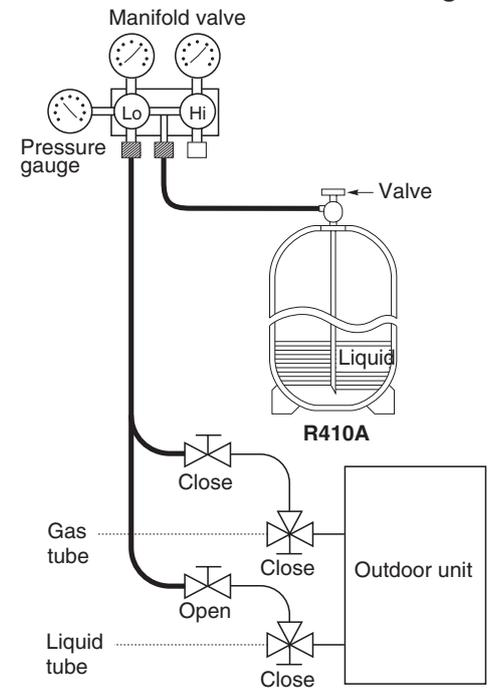

Fig. 2-37
- Charging additional refrigerant (calculated from the liquid tube length as shown in Section 1-9 “Additional Refrigerant Charge”) using the liquid tube service valve. (Fig. 2-37)